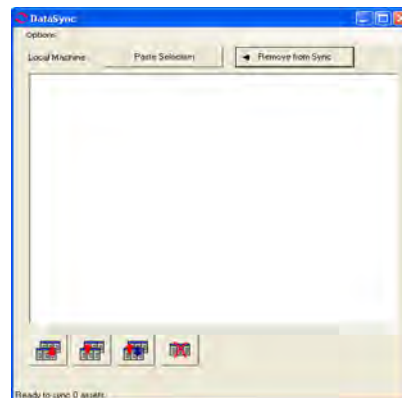

Figure 4-41: DataSync Window
3. Highlight the assets to be tested on the Site Navigator or the WatchList, and click the DataSync  icon on the tool bar. The DataSync window, Figure 4-41, appears.